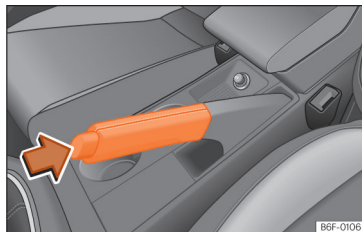

Fig. 117 Parking brake between the front seats.
- Pull the parking brake lever up >>> **Fig. 117**.
- Pull the lever slightly up, press the unlock button in the direction of the arrow >>> **Fig. 117** and lower the lever completely >>> **△**.